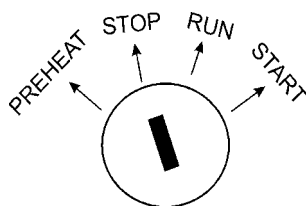

Figure 57. Key Switch (OFF)
4. Turn the key switch to ‘STOP’ (Figure 57).